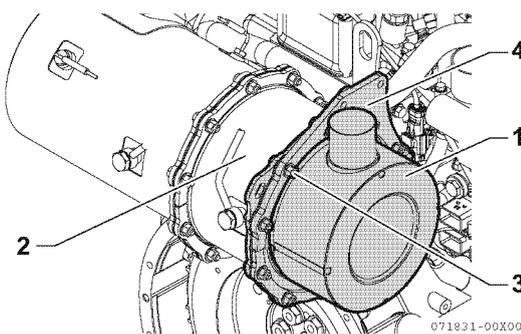

Figure 13-10
- Remove the M8 bolts and flange nuts (3, **Figure 13-10**) (8 or 10 of each) that fix the silencer (or outlet flange) (1, **Figure 13-10**) and SF case (2, **Figure 13-10**).
- Remove the stiffeners (4 pcs.) (4, **Figure 13-10**) that hold the mating surface of the silencer and SF case flange while DPF stay is attached to one of the stiffeners, and remove the silencer (or outlet flange). For mounting position of the stiffener, see **Figure 13-11**.